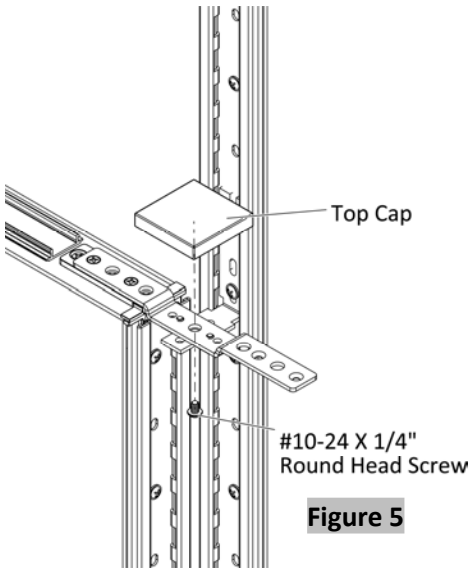

Figure 5
- Position and securely fasten top cap into the connectors with #10-24 X 1/4" Round Head Screw, (Figure 5).